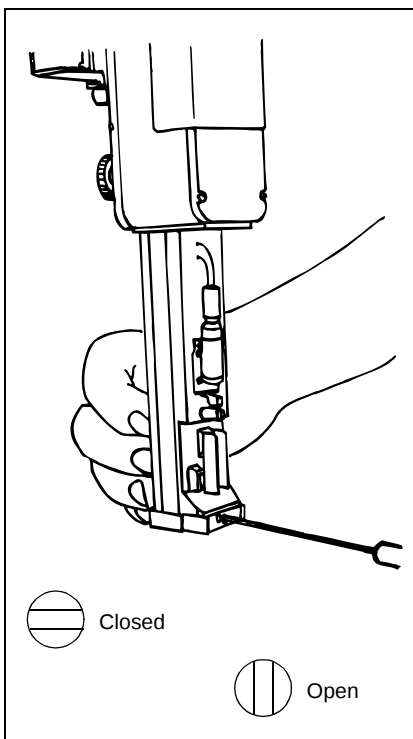

Figure 1
- Open the recuperation gutter (Figure 1).